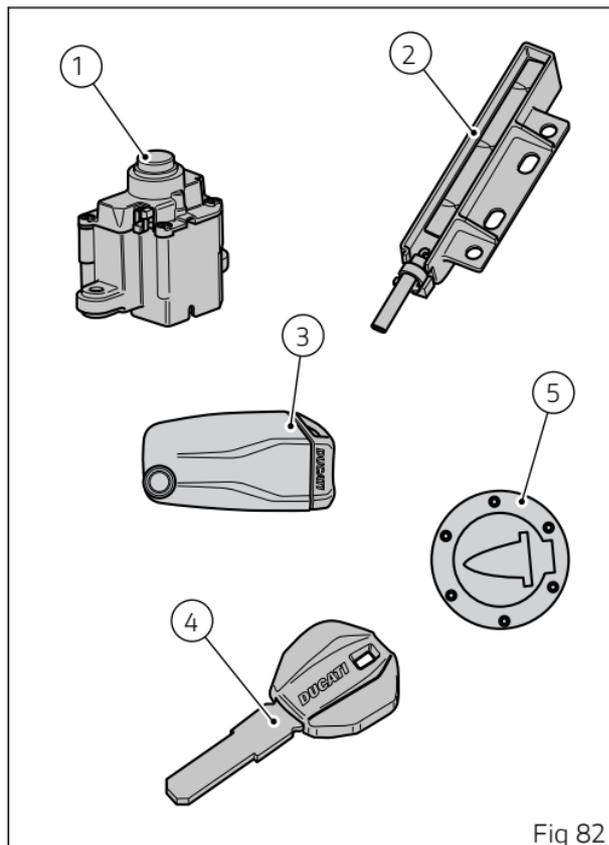

Fig 82
The "Hands free" unit (1, Fig 82) is located on tank front side and can be accessed by pulling up and removing protection cover (8).
Key-On can be performed by pressing button (6) on the handlebar and with the presence of the active key (3, Fig 82).
Key-Off can be performed by pressing the button (6) on the handlebar. It can also be performed without the key (3, Fig 82) only if motorcycle speed is equal to zero.
Key-On can be performed by pressing button (7) on the Hands free unit (1, Fig 82) and with the presence of the active key (3, Fig 82).
Key-Off can be performed by pressing button (7) on the Hands free lock (1, Fig 82), also without the key (3, Fig 82).
Key-On can be performed by pressing the grey button (6) on the handlebar and with the presence of the passive key (4, Fig 82).
Key-Off can be performed by pressing the grey button (6) on the handlebar. It can also be performed without the key (4, Fig 82) only if motorcycle speed is equal to zero.
Key-On can be performed by pressing button (7) on the Hands free lock and with the presence of the passive key (4, Fig 82).
Key-Off can be performed by pressing button (7) on the Hands free lock (1, Fig 82), also without the key (4, Fig 82).
Key-On can be performed by pressing button (7) on the hands free lock (1, Fig 82) without the presence of the keys (3) and (4) and entering the pin code on the instrument panel.